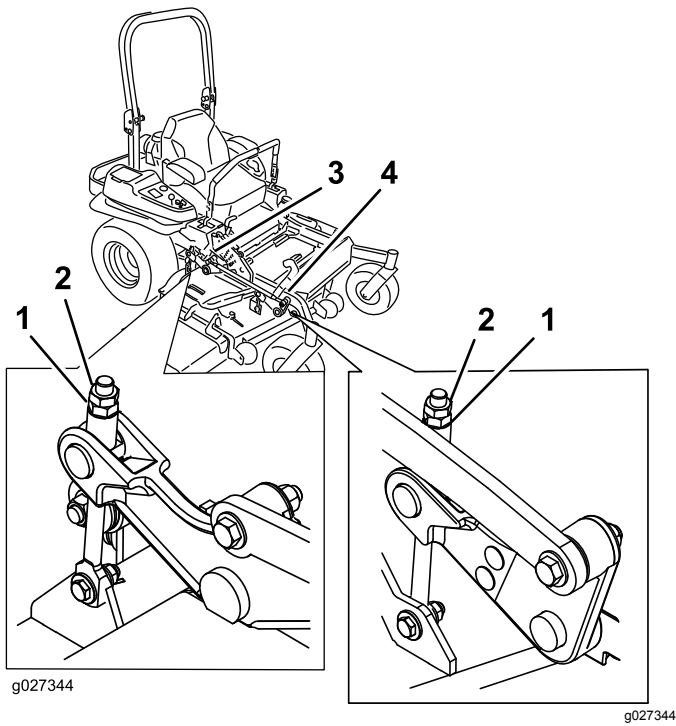

Figure 106
10. Fine-tune the adjustment nut on the front deck-lift assembly by turning it (Figure 106).
16. Fine tune the screw adjuster by turning it to get 8.3 mm (3-1/4 inches) height (Figure 106).